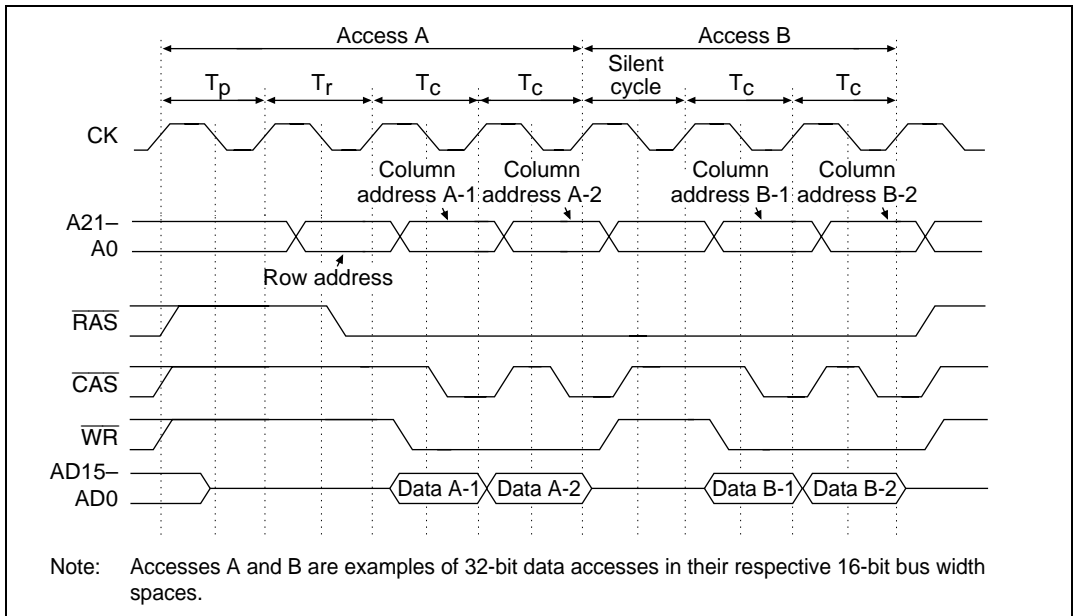
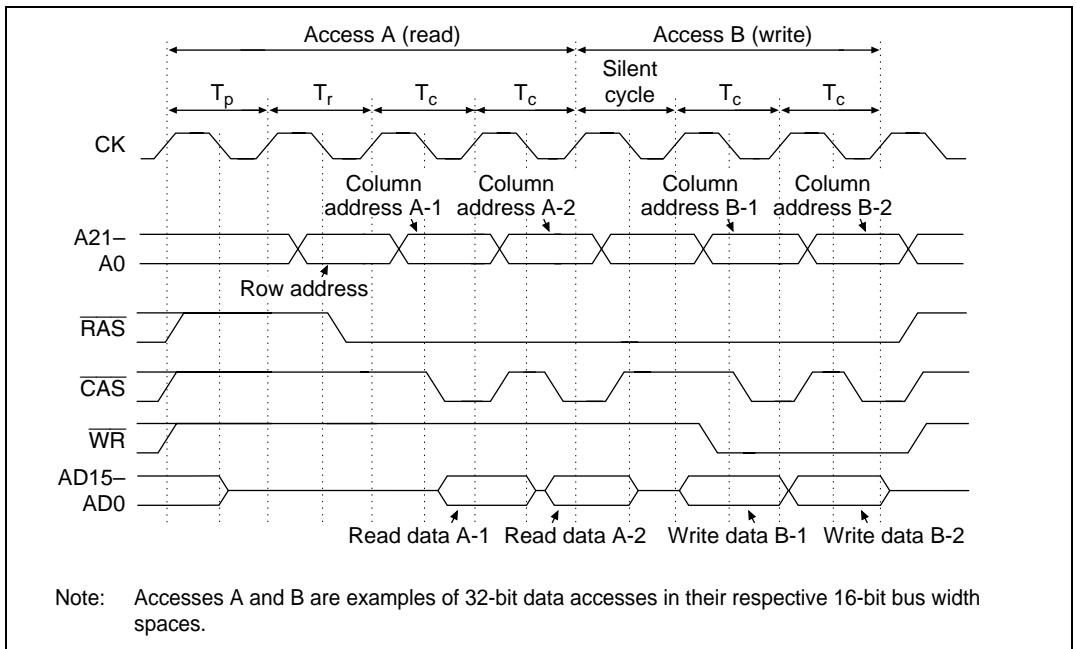

Figure 8.24 Short-Pitch, High-Speed Page Mode (Write Cycle)
Figure 8.25 Short-Pitch, High-Speed Page Mode (Read and Write Cycles Continuing with Same Row Address)
When the write cycle continues for the same row address in short-pitch, high-speed page mode, an open cycle (silent cycle) is produced for 1 cycle only. This timing is shown in figure 8.24. Likewise, when a write cycle continues after the read cycle for the same row address, a silent cycle is produced for 1 cycle. This timing is shown in figure 8.25. Note also that when DRAM is written to in short-pitch, high-speed page mode when using DMAC single address mode, a silent cycle is inserted in each transfer. The details of timing are discussed in sections 20.1.3 (3) and 20.2.3 (3), Bus Timing.